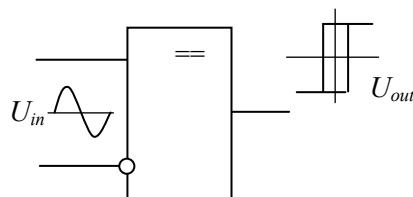

Fig. 2.45
**Comparator.** A *comparator* may be the perfect solution for comparing one voltage with another to see which is larger. Its circuit symbol is shown in Fig. 2.45. It is the fast differential dc amplifier of high gain and stability, with a logic output that switches to one state when the input reaches the upper trigger point and switches back to the other state when the input falls below the lower trigger point. The first industrial integral comparator  $\mu$ A710 was developed by R.J. Widlar in USA in 1965.